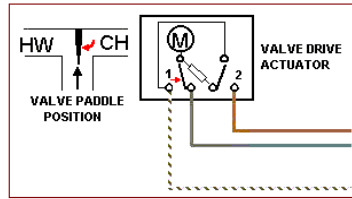

Fig. 8
b) Motor begins to drive, opening CH port and turning two small cams within the drive actuator. Cam 1 makes switch 1 snap over when paddle is halfway (Fig.8). Full drive power continues via grey lead (terminal 7) from satisfied cylinder stat.
c) Cam 2 changes Switch 2 back (as Fig. 8). Power passes through the resistor, feeding the motor a reduced voltage just sufficient to hold the paddle stationary against the spring, i.e. in mid-position. Heated water can then flow through both outlet ports. Both CH and DHW are operative.